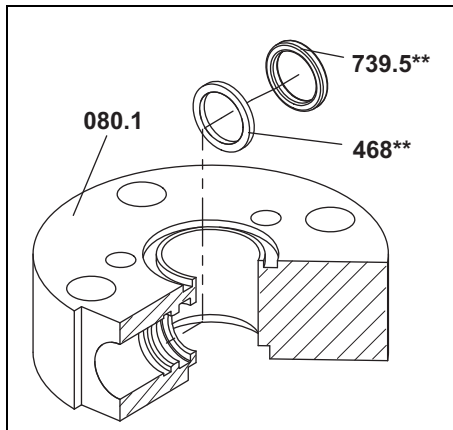

Fig. 4
- Lay the supporting ring **468**** and o-ring **739.5**** through the hole in the middle of the bearing cover into the pick up hole, see Fig. 4, page 30.